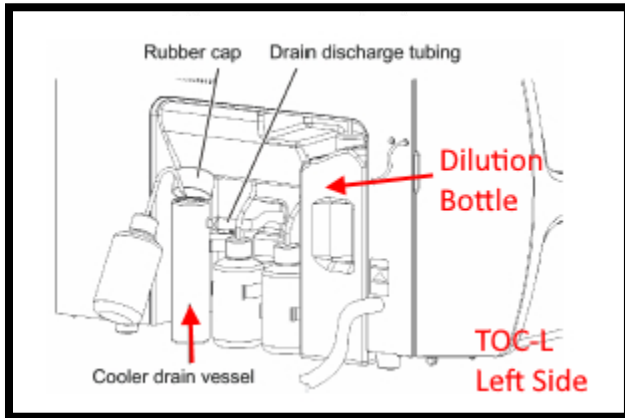

Figure 1
2. Fill the Cooler Drain Container (Fig.1) with deionized water by removing the rubber cap
4. Ensure that RINSE (behind the autosampler) and DILUTION Bottles (Fig.1) are topped up to the 2L mark with deionized water.